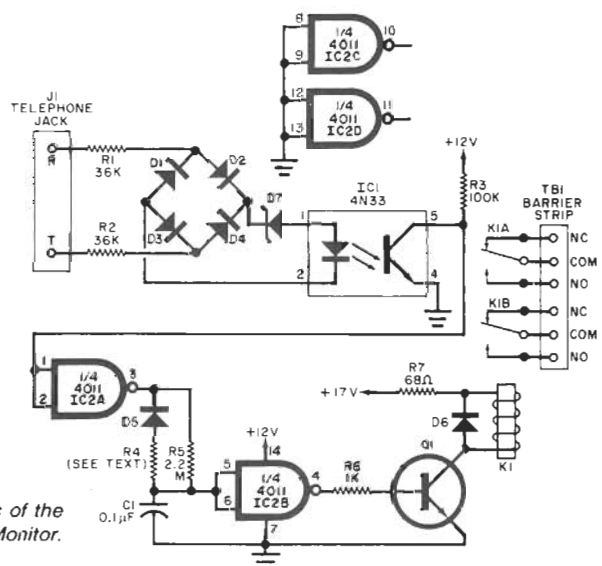
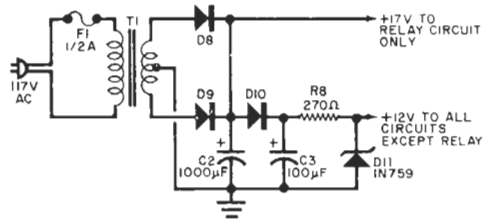
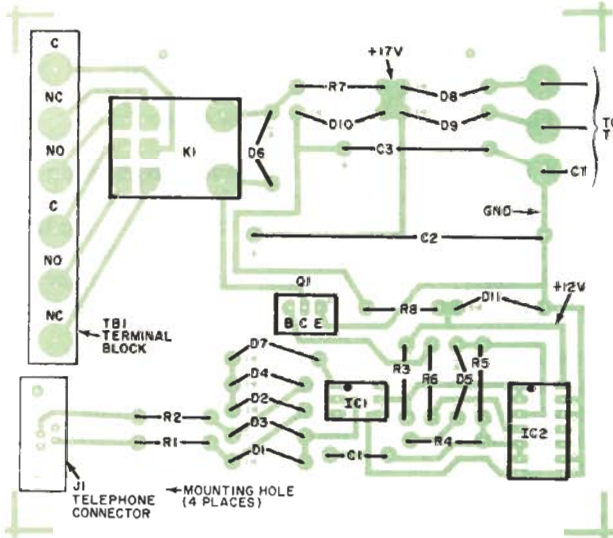
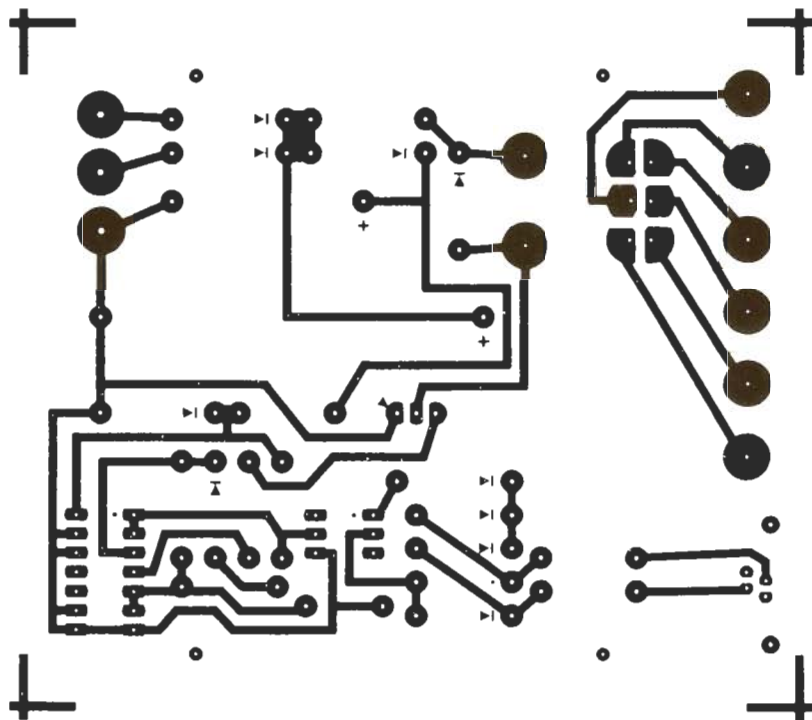

Fig. 1. Schematic of the Telephone Status Monitor.
Fig. 2. Schematic diagram of a simple power supply for operating the circuitry of Fig. 1.
Fig. 3. Component placement guide for the Telephone Status Monitor's printed-circuit board.
Fig. 4. Full-size etching and drilling guide for the project.
**Circuit Operation.** In Fig. 1, the terminals marked R and T (ring and tip) connect directly across the telephone line and monitor the line voltage. When the phone is "on-hook" (not in use), the line voltage is about 48 to 50 V dc. When the phone is "off-hook" (in use), the line voltage drops to about 6 to 10 V dc. This voltage drop occurs because of the IR loss along the lines between the central office and the phone. Also, central-office relays that monitor phone-line status add to this loss.
Figure 2 shows a simple power supply for operating the circuitry of Fig. 1. The parts layout diagram for this project is given in Fig. 3, while the foil pattern is shown in Fig. 4. ◇